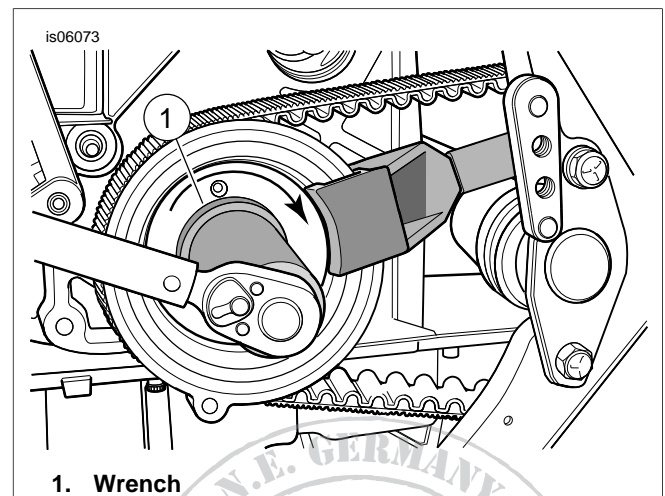

Figure 2. Install Wrench and Remove Sprocket Nut
6. See Figure 2. Slide the mainshaft wrench over the pilot and onto the sprocket nut.